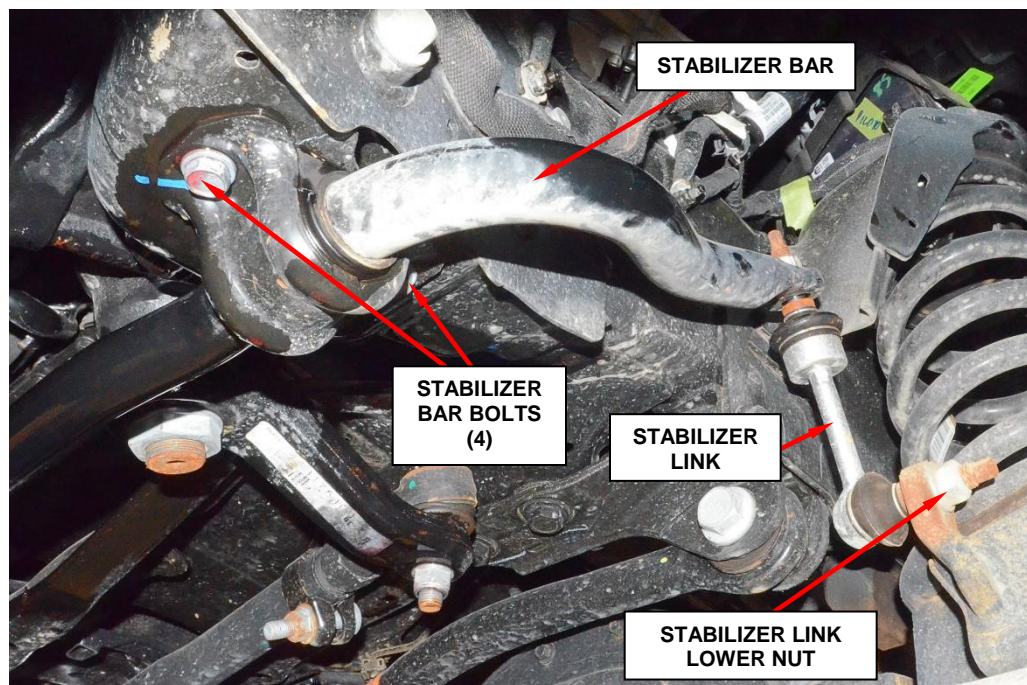

Figure 7 – Stabilizer Link
- a) Hold the stabilizer link stud and remove the stabilizer link lower nut (Figure 7).
- c) Remove the four stabilizer bar bolts (Figure 7).
- d) Remove the stabilizer bar, the stabilizer bar brackets, and the stabilizer bar bushings as an assembly and set aside (Figure 7).
9. Install the four stabilizer bar bolts and tighten to 83N·m (61ft. lbs.) (Figure 7).
10. Position the stabilizer bar link to the stabilizer bar and to the axle bracket (Figure 7).
11. Install the stabilizer links lower nut, then hold the stabilizer link stud and tighten to 149N·m (110ft. lbs.) (Figure 7).